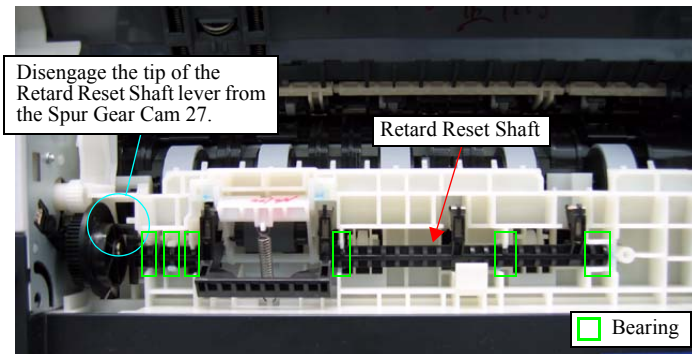

Figure 4-177. Removing the FASF Retard Assy (2)
- When installing the Retard Reset Shaft, make sure to secure the shaft with the six bearings of the Paper Guide Bank Assy as shown in Figure.4-177.